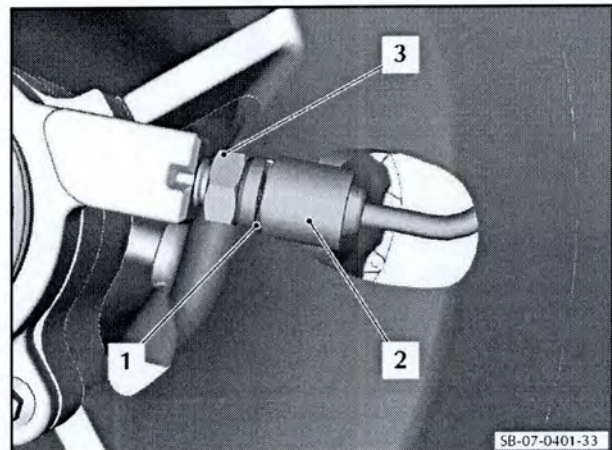

Figure 35
66. Connect the tube assembly (2) to the concentric slave cylinder (3) (refer to Figure 35).
67. Install a new clip (1) to attach the tube assembly (2) to the concentric slave cylinder (3).